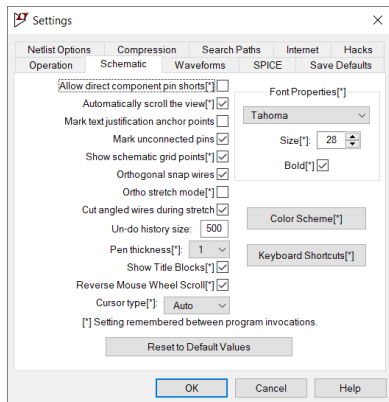

Figure 1: Start screen for the LTspice setup.
LTspice is a **Simulation Program with Integrated Circuit Emphasis** (SPICE) created at the semiconductor company Linear Technologies (LT). LT Spice is free to download and use. To find and download the most recent version of LTspice, type "LTspice Download" into your favorite search engine. Since Linear Technologies was purchased by Analog Devices, you will be directed to the Analog Devices web site. Download the version for your operating system (Windows or MAC – sorry Linux users) and start the install, see Figure 1.